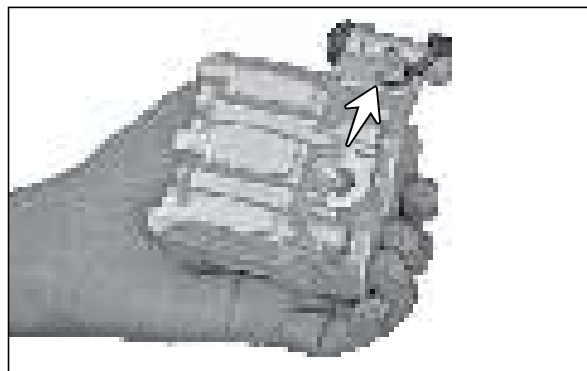

Fig. 6.30
- Remove the bleeder screw. (Fig. 6.30)